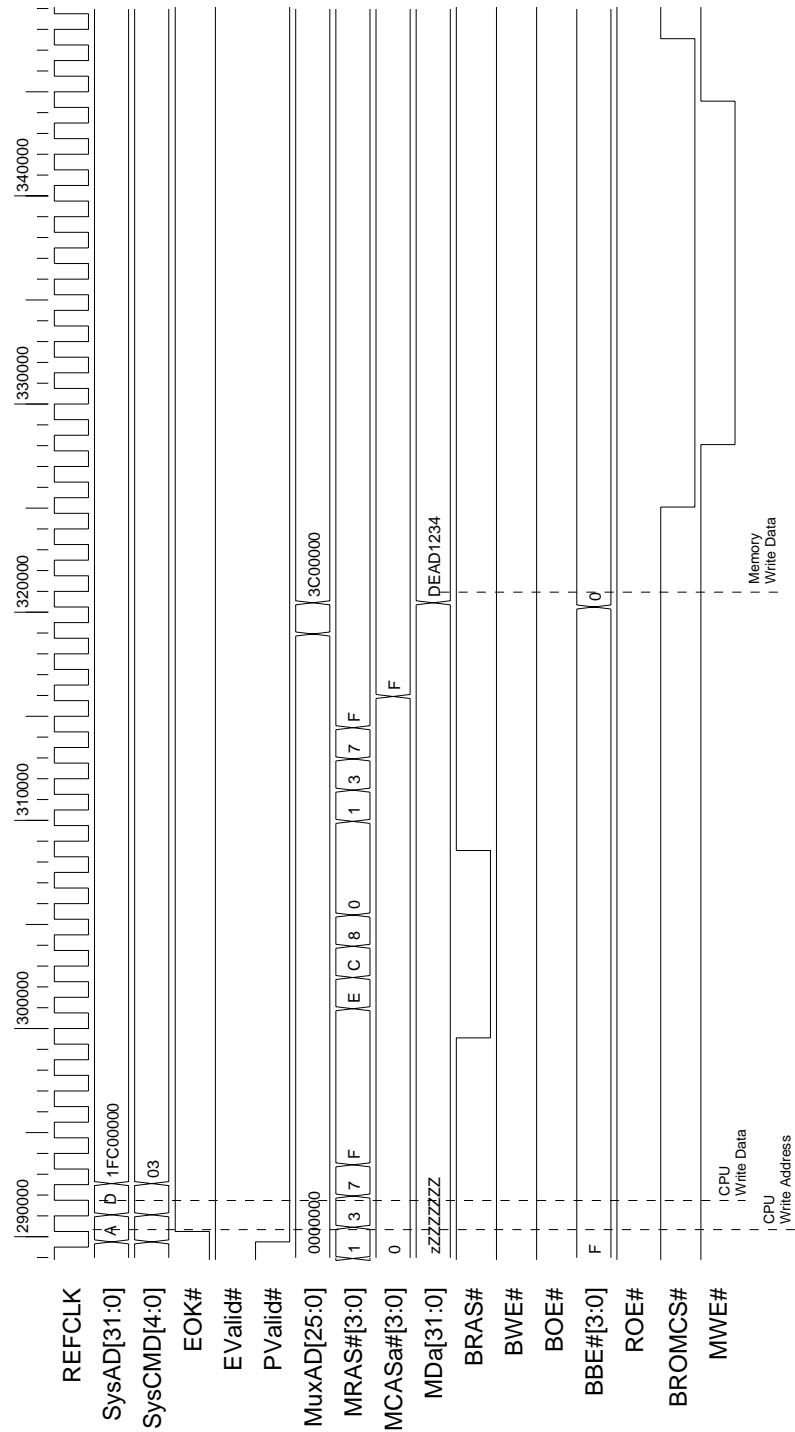

Figure 20. CPU Quad Write to SDRAM Base Memory
- Figure 20, CPU Quad Write to SDRAM Base Memory, on page 107